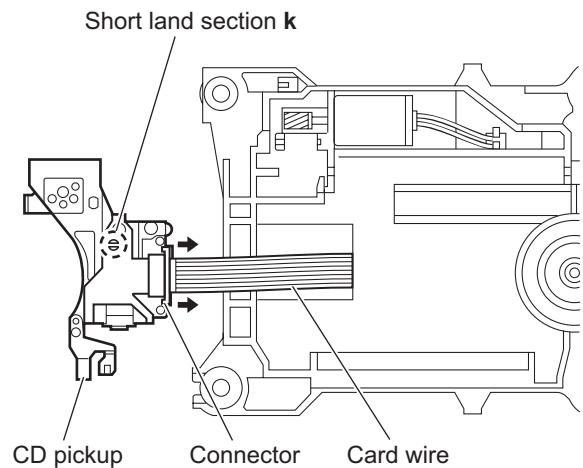

Fig.9
- (7) From the bottom side of the CD pickup, solder the short land sections **k** on the CD pickup. (See Fig.9)
- (8) Release the lock of the connector on the CD pickup in the direction of the arrow and disconnect the card wire. (See Fig.9)
- Solder the short land sections **k** on the CD pickup before disconnecting the card wire from the connector on the CD pickup. If the card wire is disconnected without attaching solder, the CD pickup may be destroyed by static electricity. (See Fig.9)
- When attaching the CD pickup, be sure to remove solders from the short land sections **k** after connecting the card wire to the connector on the CD pickup. (See Fig.9)
- (1) Remove solders from the short land sections **k** after connecting the card wire to the connector on the CD pickup. (See Fig.9)